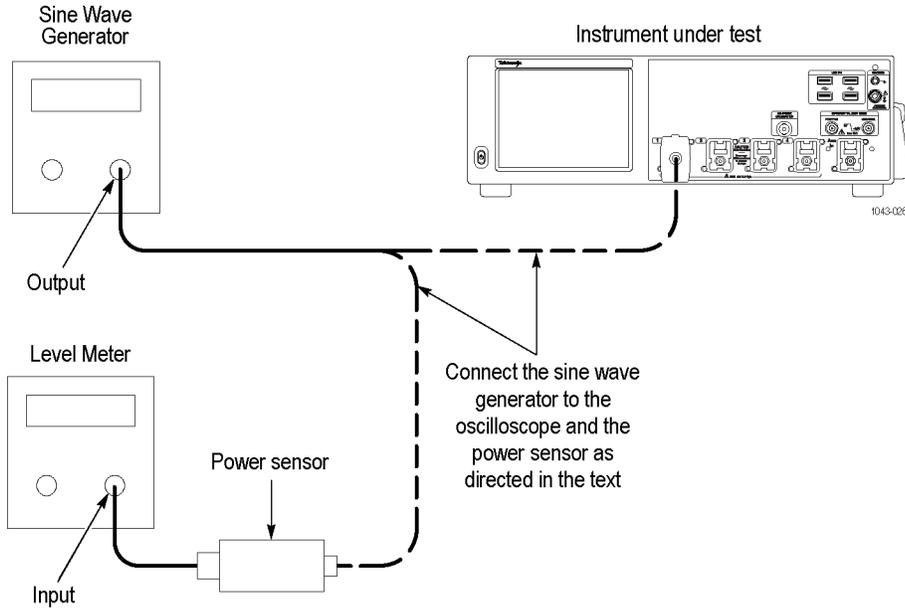

Figure 37: Equipment setup for maximum amplitude
1. *Install the test hookup:* Connect the equipment as shown in the figure below (start with the sine wave generator connected to the instrument). (See Figure 37 on page 177.)